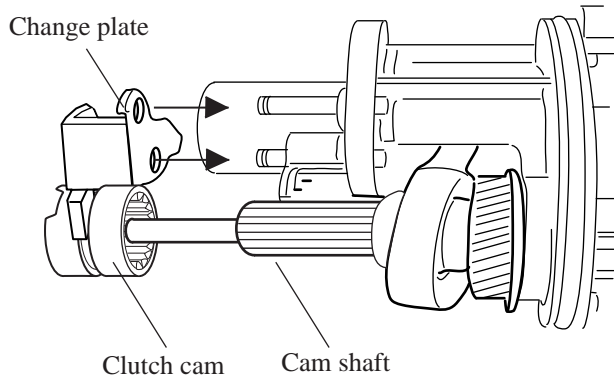

Fig. 12D
6. Set change plate in the groove of clutch cam, and assemble the clutch cam with change plate to cam shaft as illustrated in Fig. 12D.